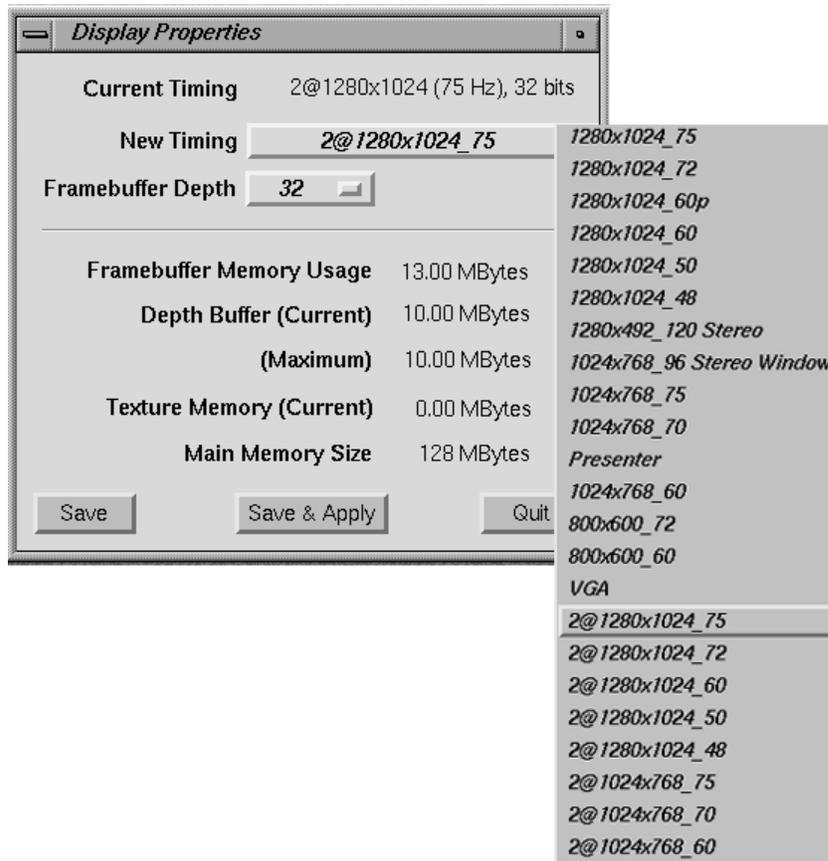

Figure 3-2 The Xscreen Window
2. When the window shown in Figure 3-2 appears, click *New Timing* to see a list of available display settings. The dual channel mode display settings have the prefix "2@."